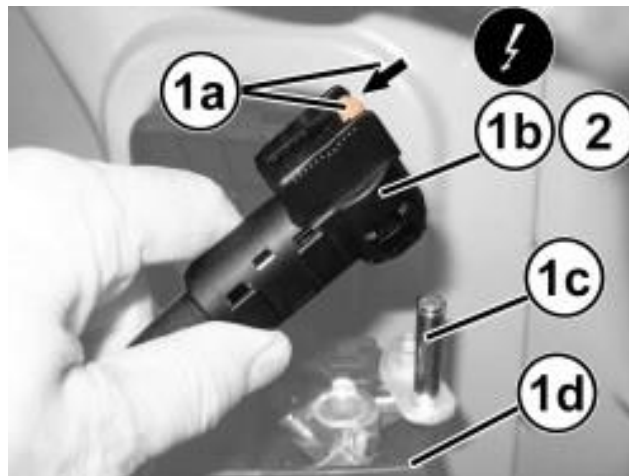

Figure 3 – Battery Negative Cable
17. Press the release button (1a) and disconnect the negative cable (1b) from the battery post (1c) (Figure 3).
18. Move the terminal out of the way and isolate it (1b) (Figure 3).